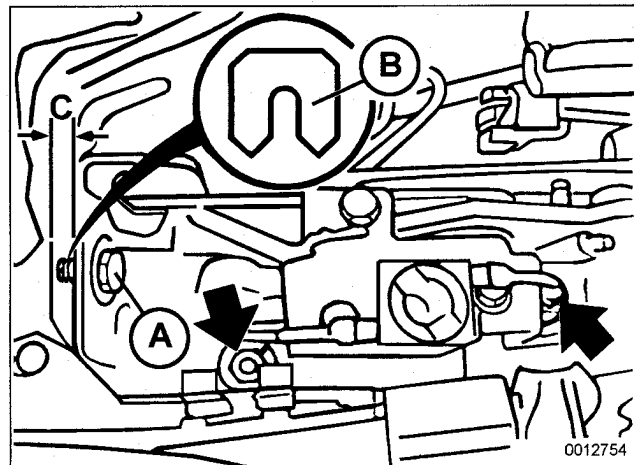

Fig. 4. Horizontal positioning bolt (A) and U-shaped adjusting shims (B) for convertible top. One of two main mounting nuts (arrows) also visible.
3. Installation is reverse of removal. Be sure to replace U-shaped shims on horizontal mounting bolts. See Fig. 4.